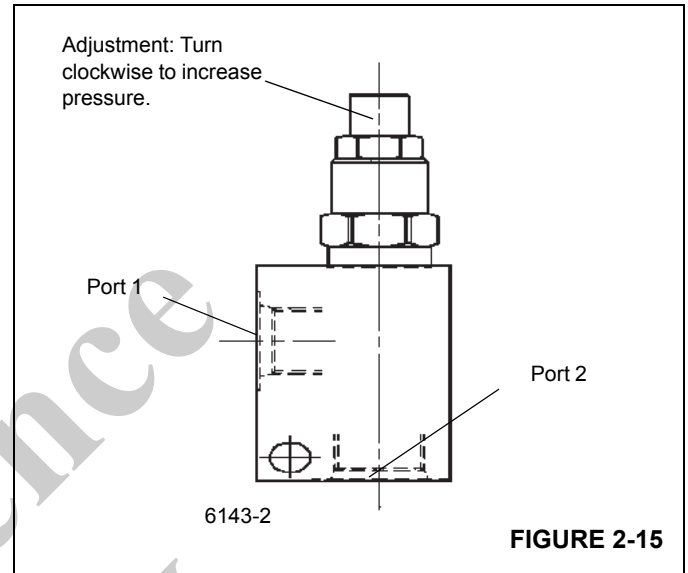

FIGURE 2-15
1. Remove hose from Port 1 on the Center Front Jack Cylinder Relief Valve. (See Figure 2-15.)
4. While pressing the extend switch and the front jack activate switch on the outrigger control box, check the pressure and adjust the relief valve to 14 +4/-0 bar (200 +50/-0 PSI) (Figure 2-15).